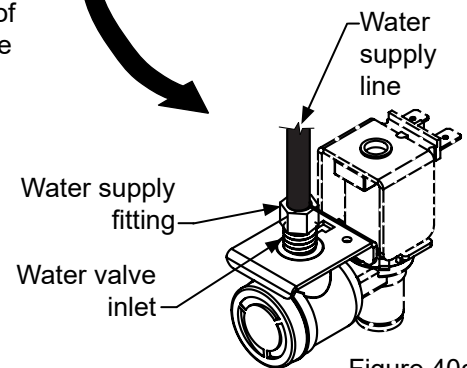
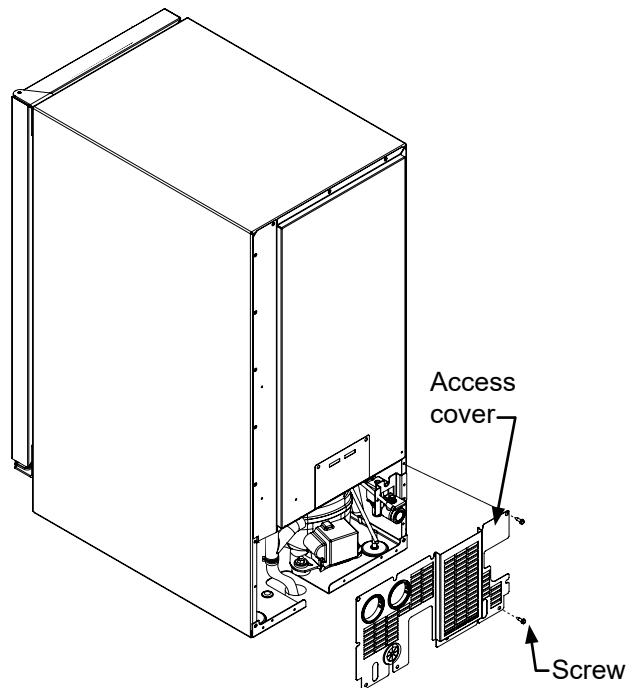

Figure 40a
Figure 41
2. Disconnect the water supply fitting at the inlet of the water valve. (See Figure 40a).
3. Change the electronic control to the "CLEAN" position for approximately one (1) minute. This will energize and open the water valve and remove most of the water from the water valve and the water valve's outlet water line to the reservoir.
6. Remove the access cover from the rear of the ice machine. (See Figure 41).